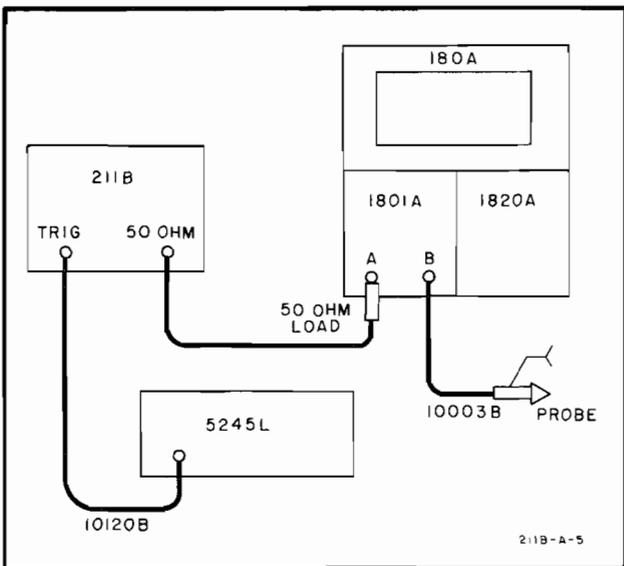

Figure 5-2. Frequency Check Test Setup
a. See Figure 5-2. Connect the required equipment as indicated.
a. With the Model 211B connected as shown in Figure 5-2, set the controls as follows: